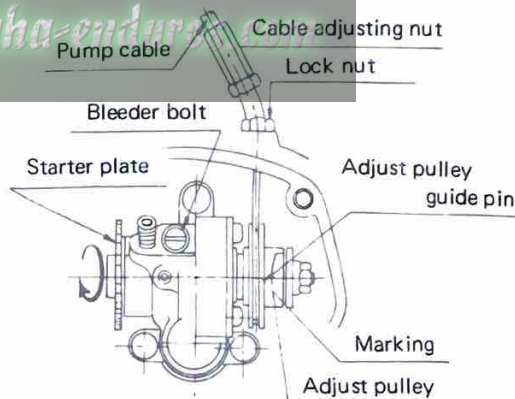
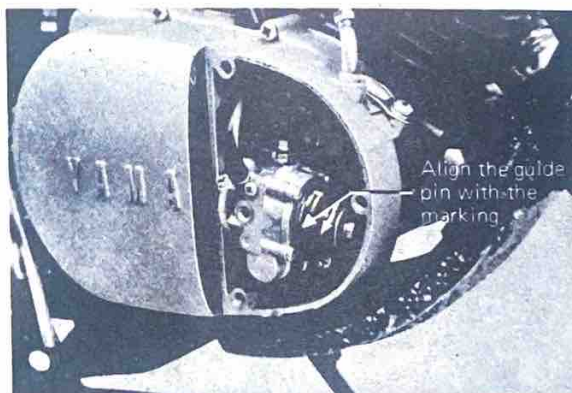

Fig. 2-3-7
Fig. 2-3-8
- Check the play of the throttle cable (A) by pulling the outer part of the throttle grip. If the play is excessive or insufficient, adjust the play with the adjustment screw.
- Adjust the pump cable so that the marking (arrow) on the Autolube pump adjustment pulley is aligned with the guide pin (see Fig. 2-3-8). Begin by fully closing the accelerator grip, then slowly turning it back again so that the slack in the throttle cable is completely taken up. Next, adjust the pump cable so that the marking on the pump adjustment pulley will be aligned with the guide pin, as shown in Fig. 2-3-7. The point of adjustment is at the end of the cable, just before it enters the case. Loosen the lock nut and screw the adjustor in or out, whichever direction is necessary to obtain the correct adjustment.